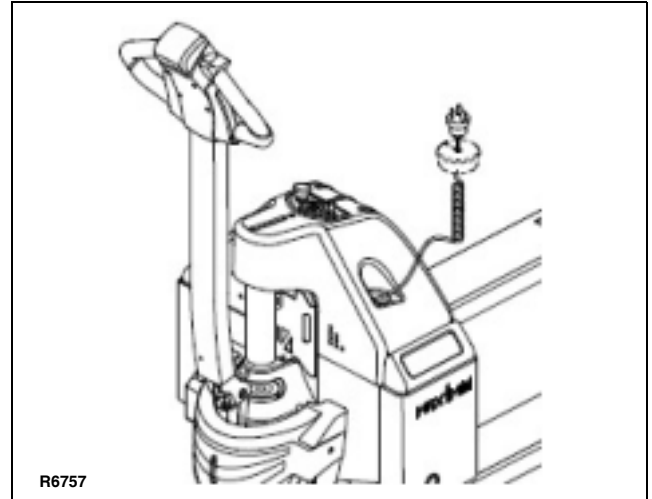

Figure 3-1 Battery Charging
3. Pull the charger cord out of the top cover (Figure 3-1) and connect to the appropriate power supply.